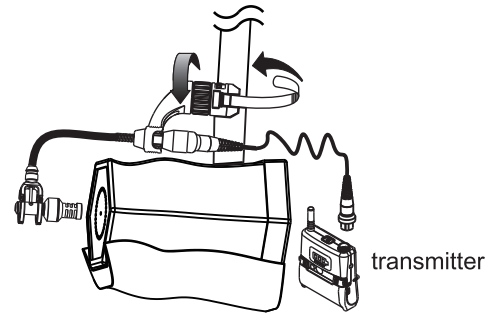

Fig. 12-3
- (C) Install the microphone holder on the Erhu and connect CG-10E to the transmitter, Fig. 12-3.